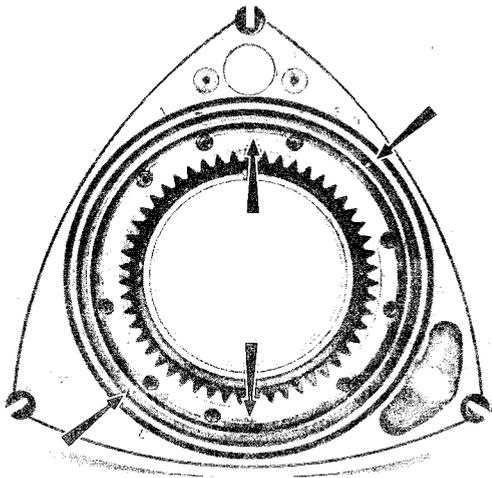

Fig. 1-51 Stopper hole of oil seal spring
2. Install the oil seal springs in their respective grooves on the rotor with each round edge of the spring fitted in the stopper hole in the oil seal grooves as shown in Fig. 1-51.